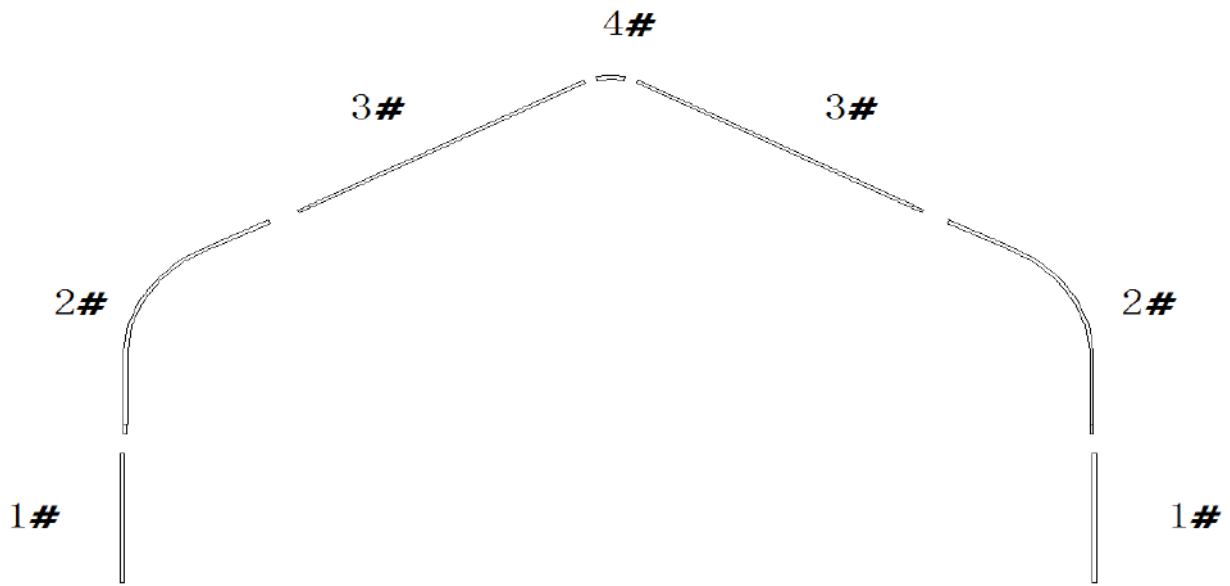

Figure 3
- Connect all tubes (Nos. 1, 2, and 3) using two self-tapping screws (No. 28) for each connection, the heads of self-tapping screw (No.28) should face inwards towards the greenhouse tunnel to protect the film, as illustrated in Figure 3.